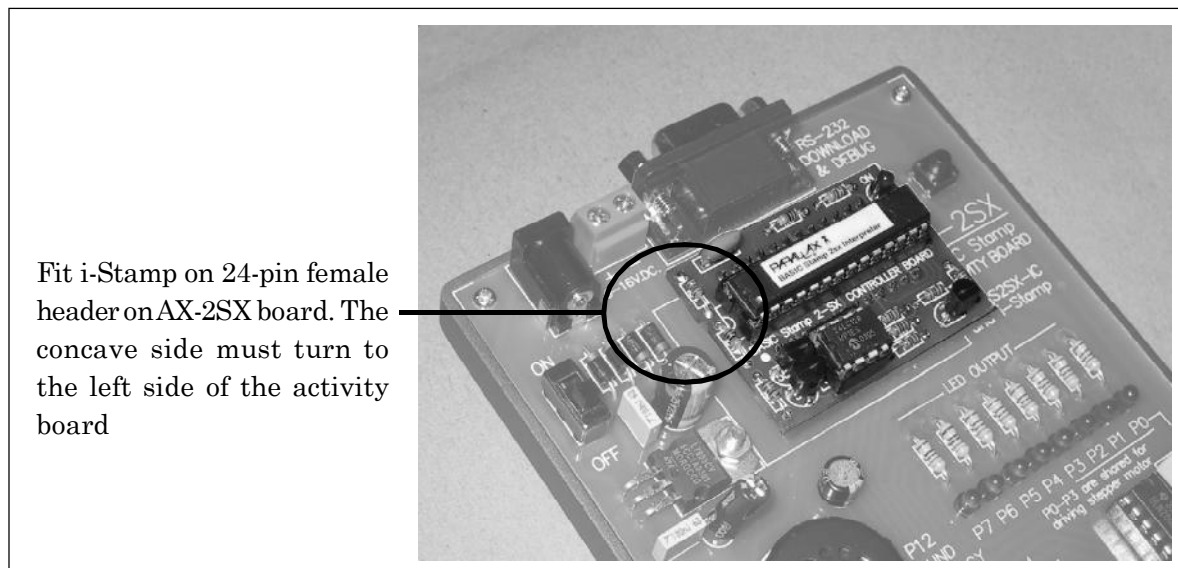

Figure A1-1 Show the fitting i-Stamp into AX-2SX Activity board
- 1.1 Put i-Stamp into 24-pin female header on AX-2SX Activity board. Must put the right direction following in figure A1-1.